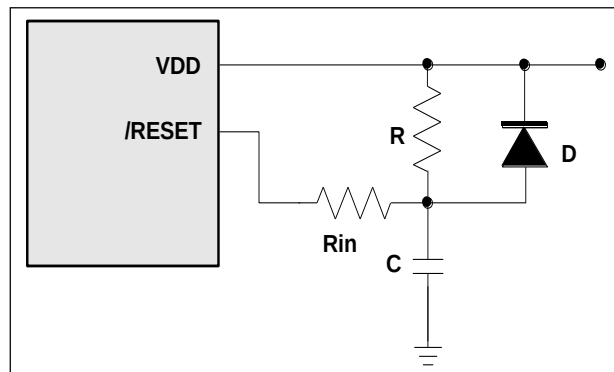

Figure 6-49 External Power-Up Reset Circuit
The circuit has shown in Figure 6-49 implements an external RC to produce the reset pulse. The pulse width (time constant) should be kept long enough for VDD to reached minimum operation voltage. This circuit is used when the power supply has slow rise time. Because the current leakage from the /RESET pin is about $\pm 5\mu\text{A}$, it is recommended that R should not be greater than 40K. In this way, the /RESET pin voltage is held below 0.2V. The diode (D) acts as a short circuit at the moment of power down. The capacitor C will discharge rapidly and fully. Rin, the current-limited resistor, will prevent high current or ESD (electrostatic discharge) from flowing to pin /RESET.